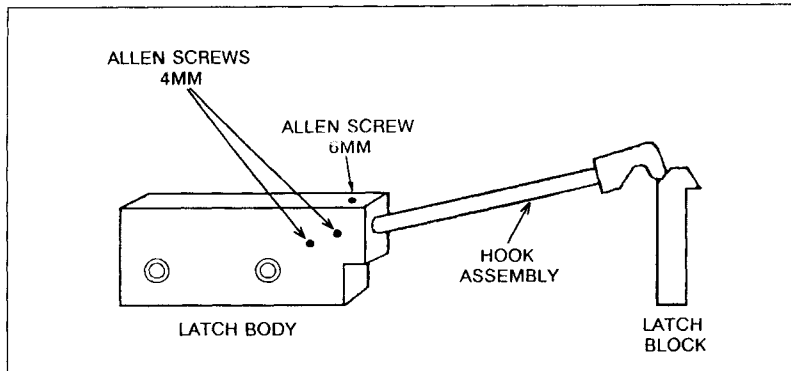

Figure 5-15. Hook Assembly Alignment
- a. Adjust the hook assembly so the latch kit is aligned with the latch block (see figure 5-15). To do this, lift the swing gate until the latch hook touches the latch block. While holding adjustment, securely tighten the 6mm allen screw and the two 4mm allen screws as shown in figure 5-15.